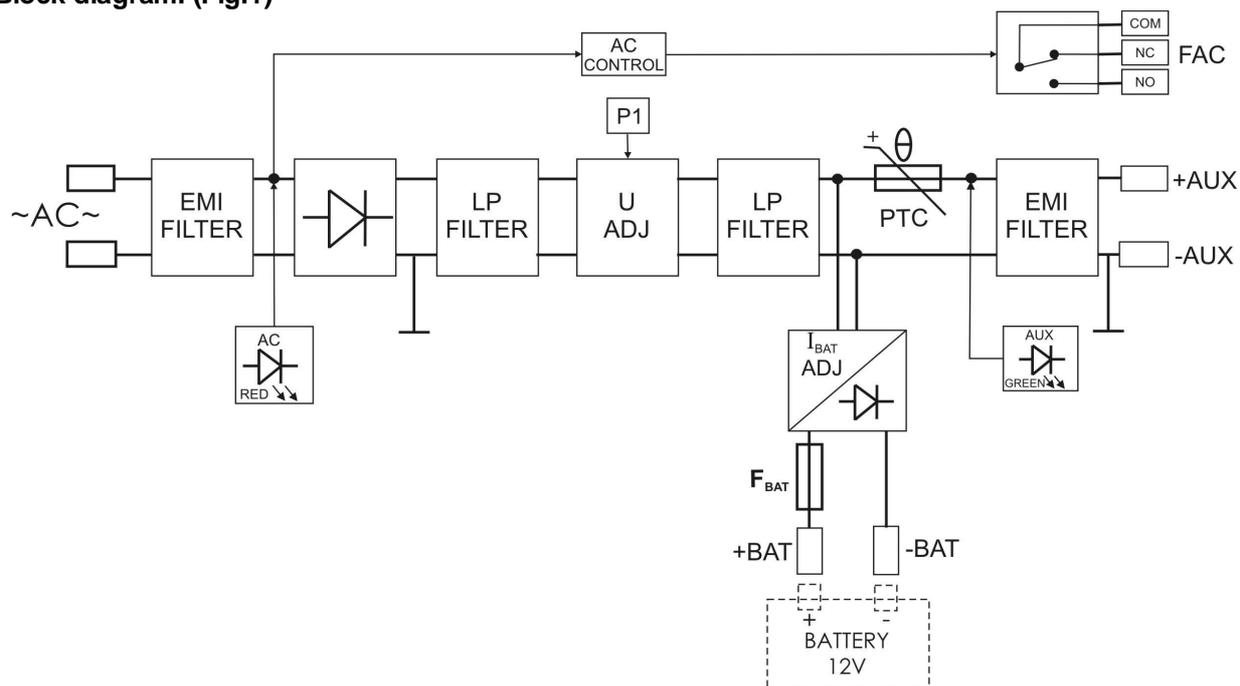

Fig.1. Block diagram of the PSU module.
1.2. Block diagram. (Fig.1)
[4]	FAC - AC absence technical output – relay type Caution! In Fig.1. the set of contacts indicates potential-free relay's status which corresponds to AC power outage (AC power failure).
CAUTION! In Fig.1. the set of contacts indicates potential-free relay's status which corresponds to AC power outage (AC power failure).